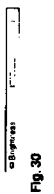

Fig. 30
- 2 Using Δ or ∇ - select the item you want to adjust and press OK. The selected item changes colour. (See Fig. 30.)